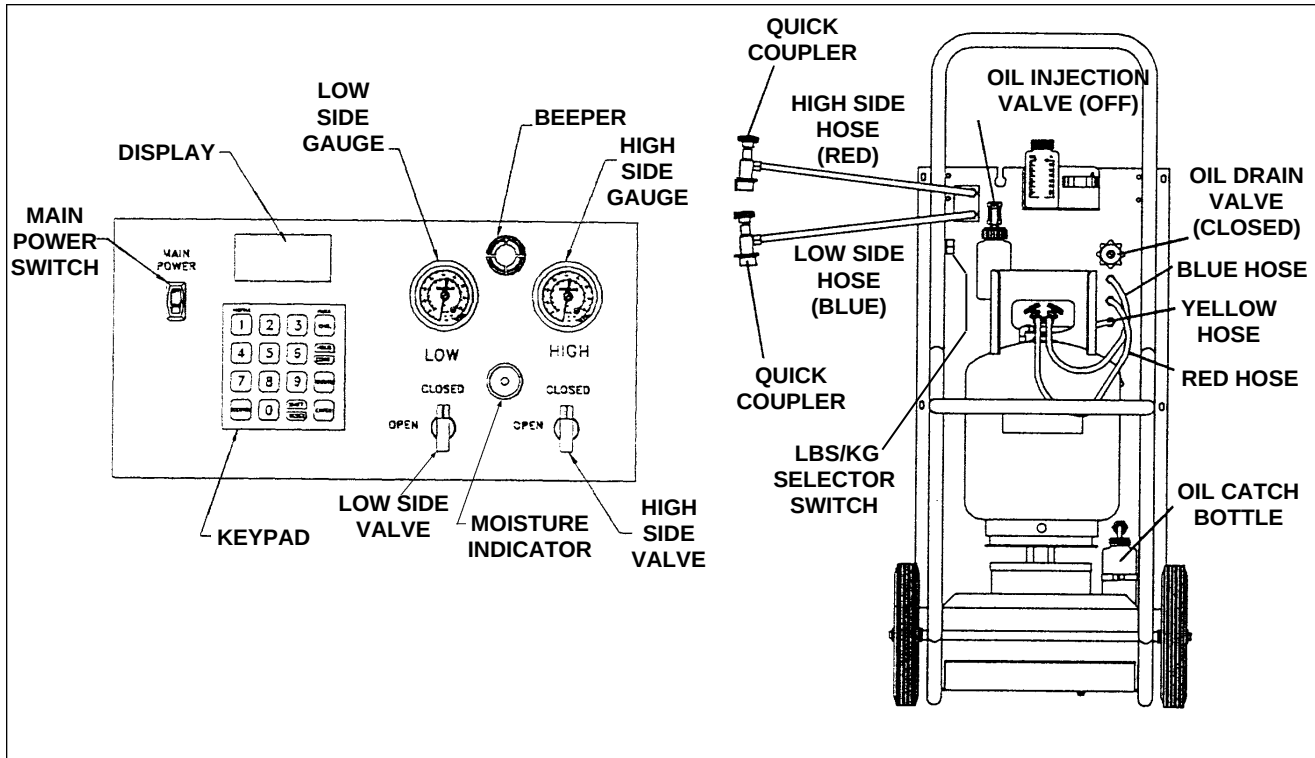
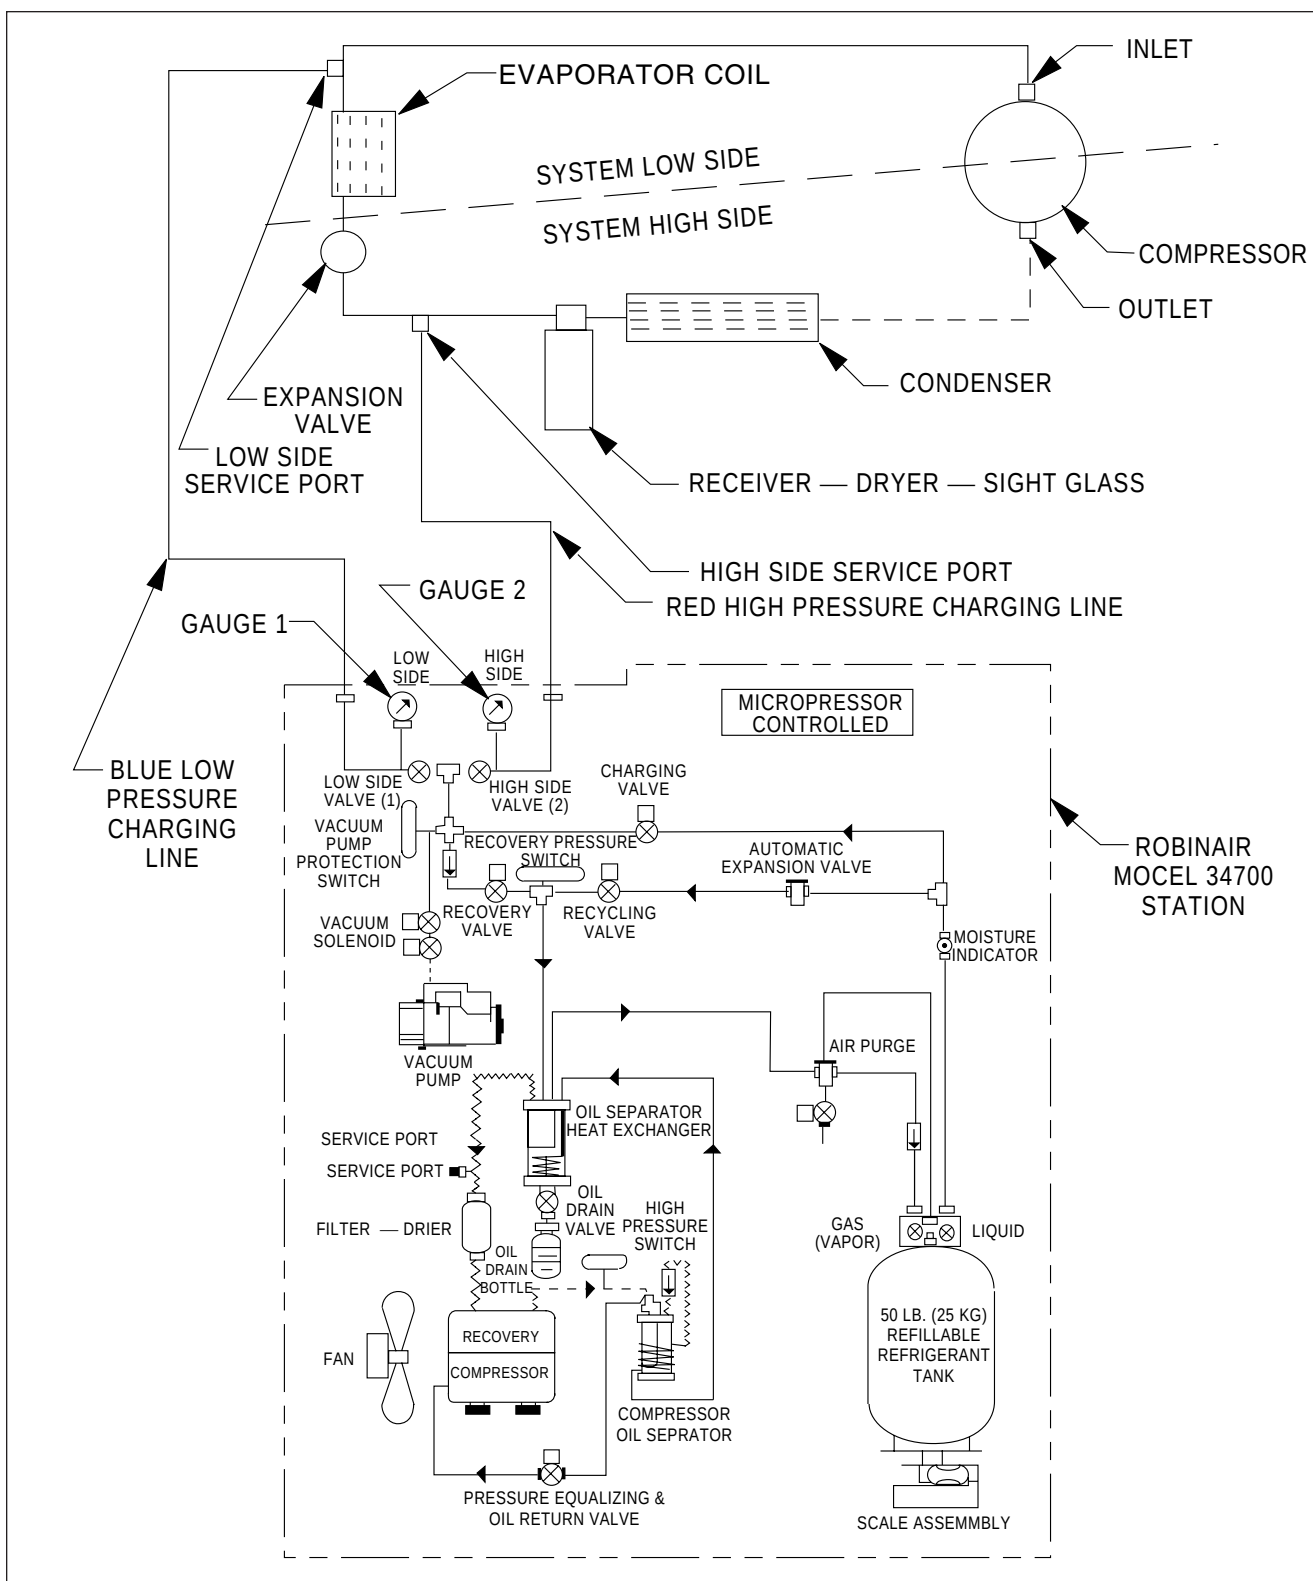

Figure 21-10. Robinair 34700 Control Panel and Hose Connections
Figure 21-11. Robinair 34700 Hose Hookup
- a. **Using the Robinair 34700** (Refer to Figures 21-10 and 21-11)
- (1) Remove access panel at rear of cabin to gain access to service valves.
- (2) Remove protective caps from the high and low side service ports on the evaporator unit.
- (3) Close both the low side and high side valves on charging unit. Refer to Figure 21-10
- (4) Connect the blue and red hoses to the service ports as shown in Figure 21-11. On systems equipped with quick disconnect connections, open coupler valves
- (5) Open blue (low side) valve (1) on unit's control panel
- (6) Open both the red GAS (vapor) valve and the blue LIQUID valve on the **tank**. (Refer to Figure 21-10.)
- (7) Program the length of evacuation time.
- (8) Enter the required time in minutes and seconds (30:00 minutes minimum) by pressing appropriate keys and then ENTER on keypad. The display will show selected time in **minutes and seconds**. Example: one hour and fifteen minutes (1:15) would be entered as 7500. The display will show 75:00. Thirty minutes is entered as 3000. the display will show 30:00.
- (9) To start the vacuum pump press the VACUUM key on keypad again.
- (10) Vacuum sequence will continue for the programmed time. Digital display will then show CPL, indicating that the evacuation is completed.
- (11) If, after 5 minutes of pump operation, the RED gauge does not indicate a little below zero:
- (1) If recharge/test stand is not already connected to system, follow steps 4, a, (1) through (4) above.
- (2) Open the high side (2) valve and allow 1/2 pound of refrigerant to enter the system. Close high (2) side valve. (Refer to Figures 21-10 and 21-11.)
- (3) Locate leak(s) using an electronic leak detector designed to detect R12 and/or R134a refrigerant, as appropriate. Or, use soap and water in a thick solution.
- (4) Repair leak(s).
- (5) Discharge system per paragraph D, 5.
- (6) Perform evacuation procedure per paragraph D, 3, a.
- (7) Immediately perform charging procedure per paragraph D, 6.